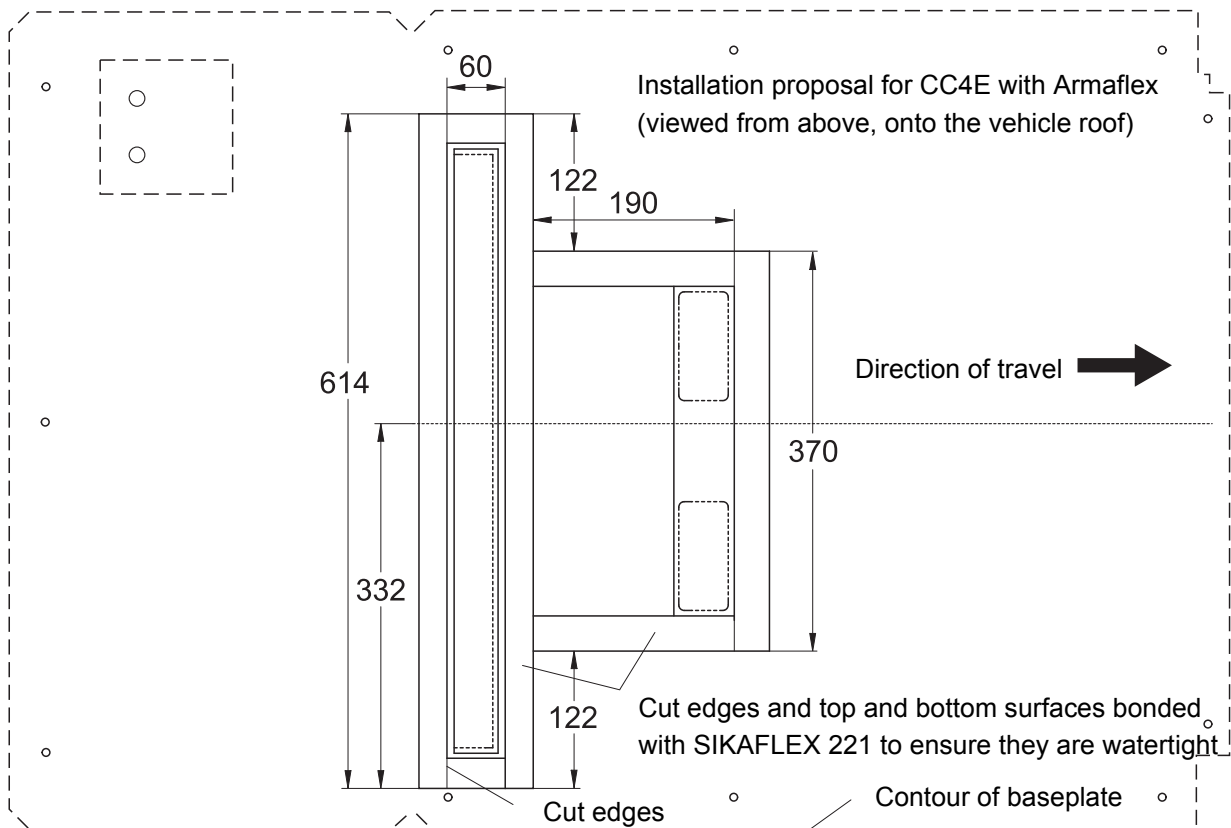

Fig. 4.2
- The height of the sealing frame must be cut / adapted to the roof contour (beads/gutters/camber) in such a way as to seal the contours as shown in Fig. 4.2.